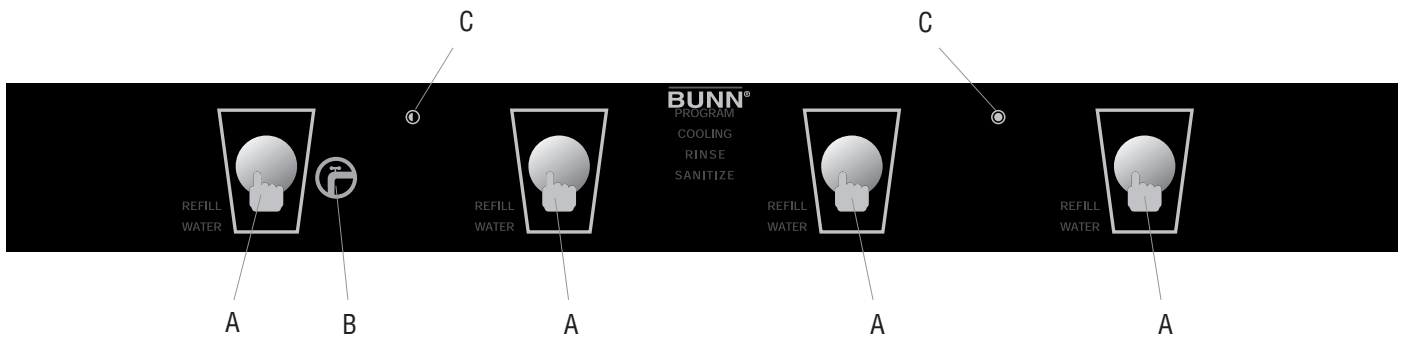
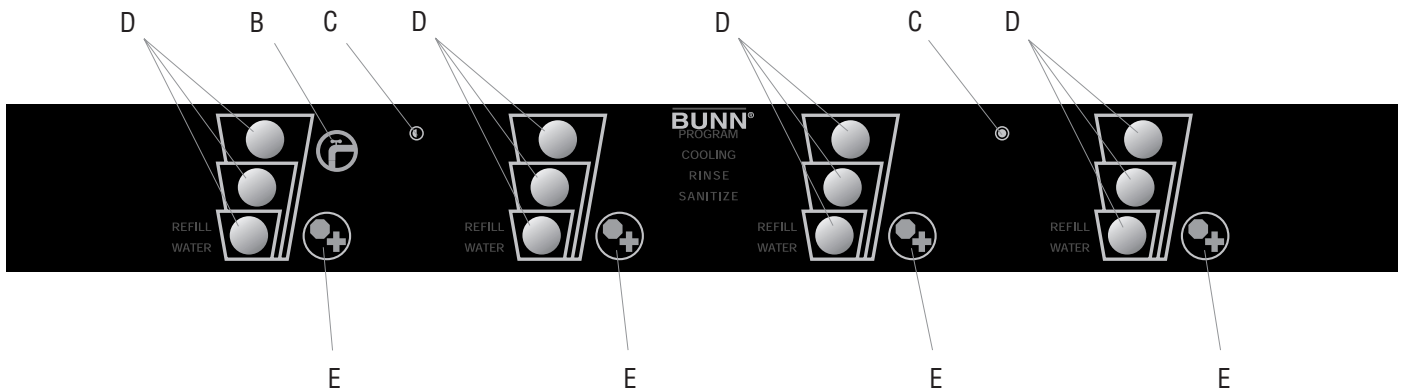

FIG 5 Press and Hold Models
FIG 6 Portion Control Models
Press and hold the "Product Dispense Switch" Fig 5, until concentrate dispenses from the dispense nozzle.
Press and hold the "+/STOP Switch" Fig 6, until concentrate dispenses from the dispense nozzle.
### **Press and Hold Models** (Refer to Fig 5)
### **Portion Control Models** (Refer to Fig 6)
5. Press and release the appropriate "Product Dispense Switch" Fig 5. This will initiate a timed rinse cycle. Portion control users can press any of the 3 "Product Dispense Switches" Fig 6, to initiate a timed rinse cycle.